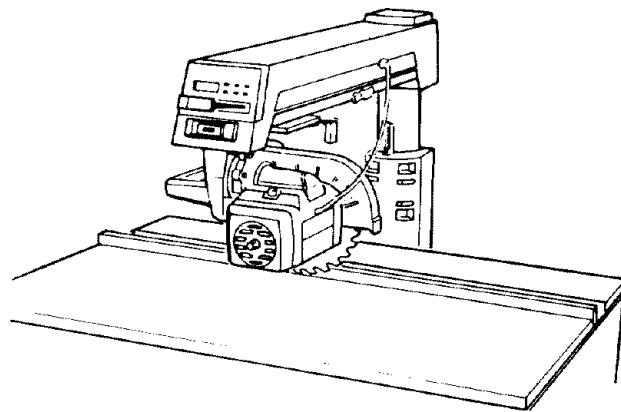

Fig. 99 - In-rip Position
3. Make sure that the lower edge of the *guard* is parallel to the table. (Figure 99 above)
5. Unlock the *swivel lock* and turn the *motor* to the in-rip position, with the *blade* between the *motor* and the *fence*. (Figure 99)